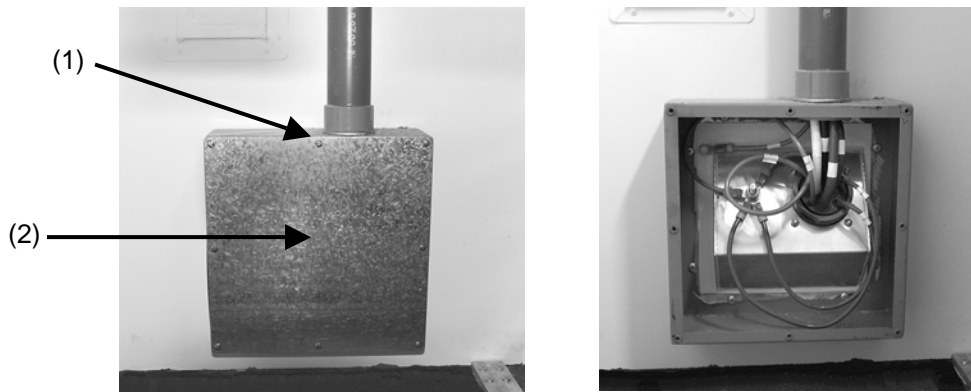

Figure 4-33. Power Input Receptacle on inside RH sidewall panel.
3. Inside container, remove outer screws (1), lock washers and washers, and carefully lift cover assembly (2) away from RH sidewall panel as far as it will go (Fig. 4-33). Discard lock washers.